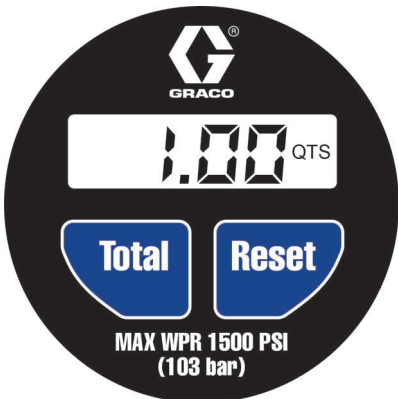

FIG. 8
3. Press and hold the **TOTAL** button until 1.00 QTS (or 1.00 L) displays steady on the screen. FIG. 8 shows the meter displaying 1.00 QTS has been dispensed.